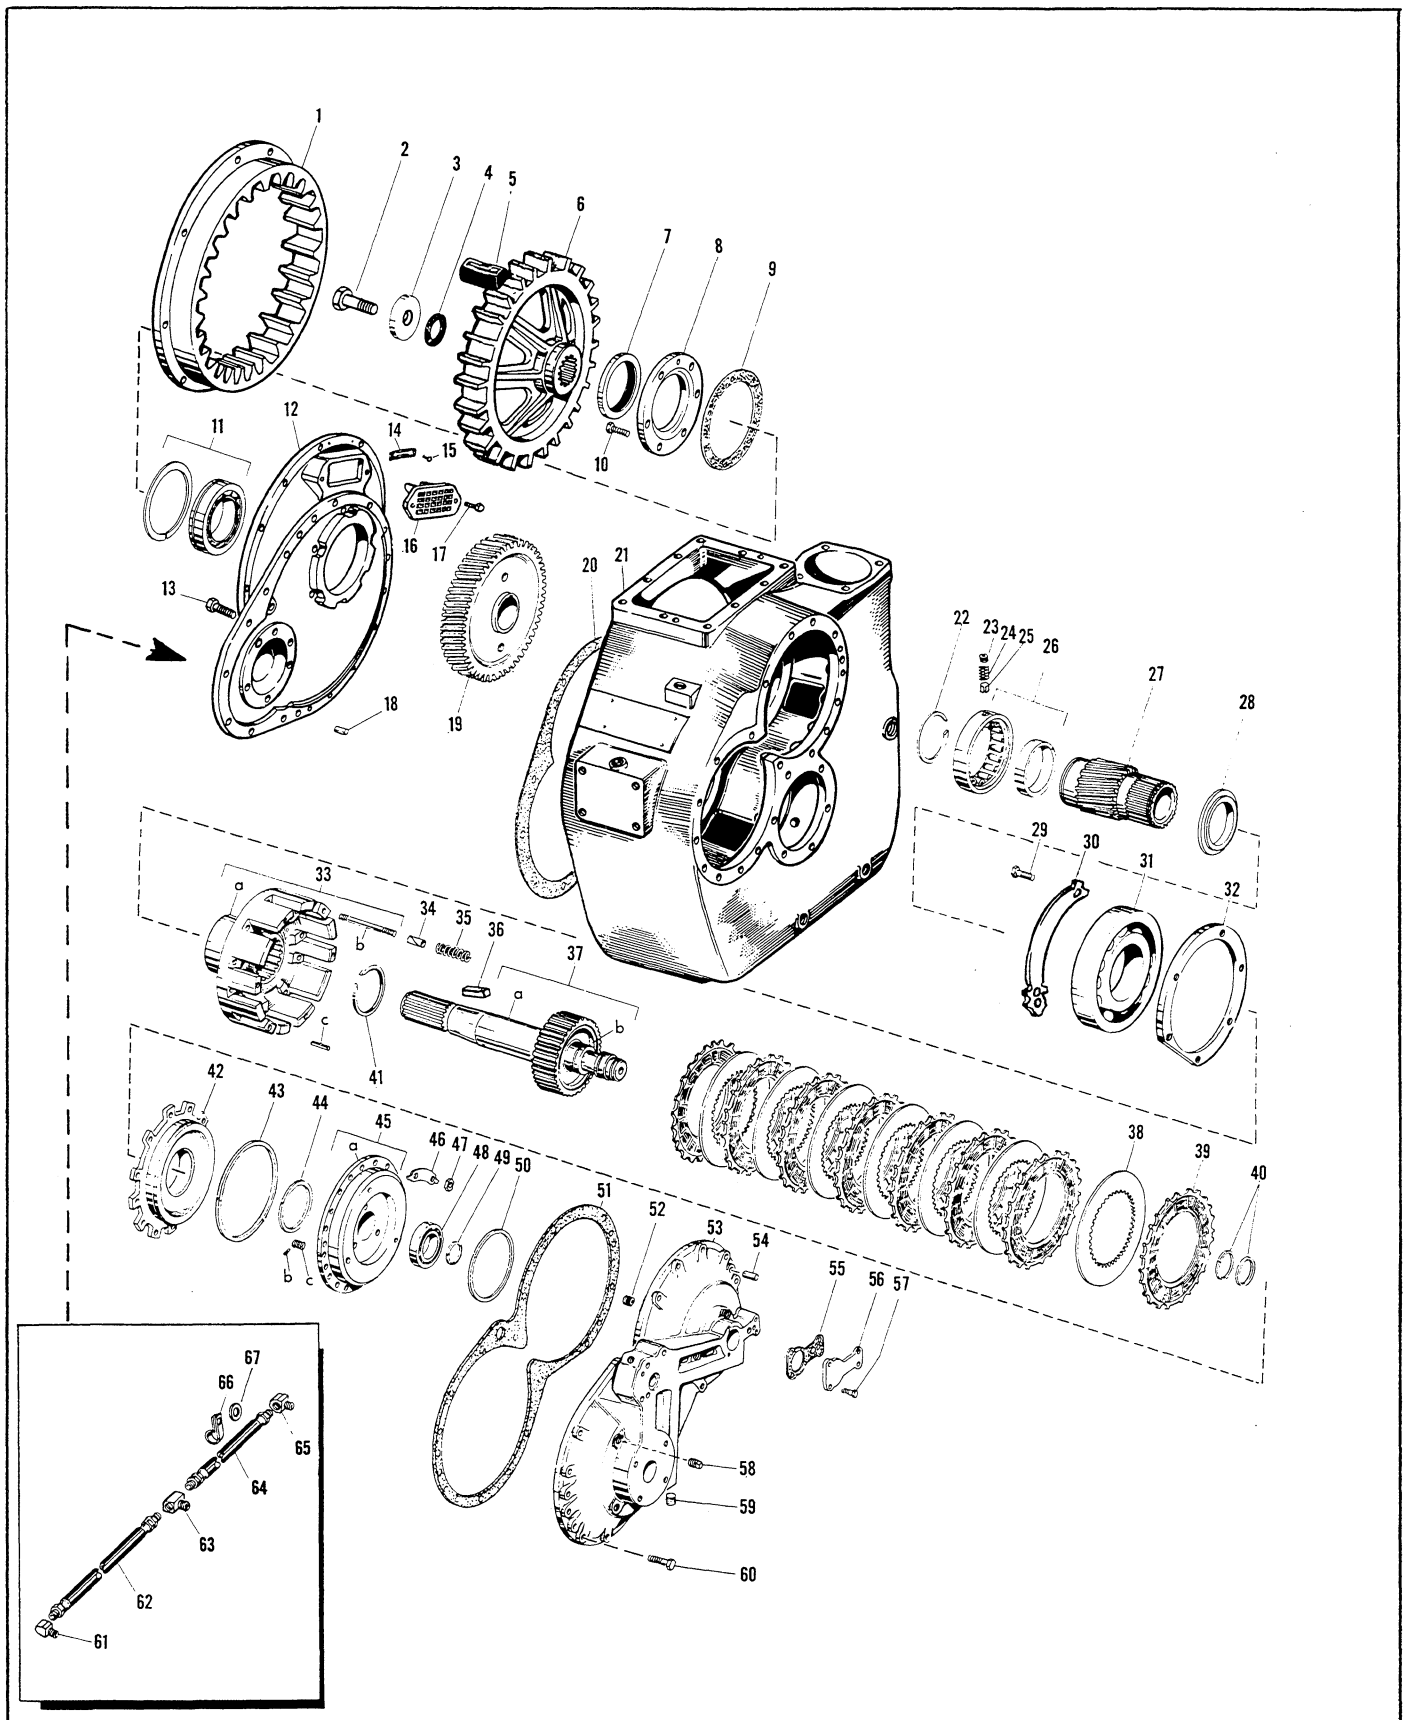

Figure 79. Forward Clutch Group Of Parts – Exploded View. (Shallow case shown).
B. Install the lathe cut ring (Fig. 79, 4) in the hub of the spider on the end of the forward clutch shaft. Secure the spider to the shaft with a retainer washer (3) and a capscREW (2) (7/8-9 x 3). Tighten the capscREW to 405-550 lbs. ft. dry.
A. Install the 1/4 inch hex-socket-head pipe plugs (fig. 79, 59) and the six 3/8 inch square-head pipe plugs (58) in the manifold (53). Use special tool T-6987, and install the roll pin (Fig. 80, 35) in the manifold. Install two new 5 inch piston rings (Fig. 79, 50 & Fig. 80, 56) in the manifold. Install the two manifold orifice pipe plugs (Fig. 79, 52) in the manifold. Install the two 1/2 x 1 dowel pins (54) in the main housing. Place the manifold and a new manifold-to-main-housing gasket (20) in position against the main housing. Carefully tap the manifold into position. Do not use excessive force to install the manifold as damage to the piston rings in the manifold or the piston rings on the shafts will occur. Secure the manifold to the main housing with sixteen 3/8-16 x 1-1/2 hex-head capscrews (60). Tighten the capscrews to 34-38 lbs.-ft. torque.
(5) Place the selector valve assembly and a new selector-valve-to-manifold gasket (41z) in position against the manifold. Secure the selector valve to the manifold with two 3/8-16 x 2-3/4 hex-head capscREWS (41dd) and two 3/8-16 x 5-3/4 hex-head capscREWS (41ee). Tighten the capscREWS to 17-25 lbs. ft. torque, dry. On units manufactured with one-half inch capscREWS used to retain the selector valve to the manifold, tighten the screws uniformly using a criss-cross sequence to 17-25 lbs. ft. torque. Check the freeness of valve stem. If stem binds, loosen the mounting screws and again tighten to 17-25 lbs. ft. torque with the criss-cross sequence. Repeat this until stem moves freely.
D. Place the cover plate (Fig. 79, 56) and a new cover plate gasket (55) in position against the manifold. Secure the cover plate to the manifold with four 3/8-16 x 1 hex-head capscREWS (57). Tighten the capscREWS to 34-38 lbs. ft. torque.
Use Figure 79 through 82 and the adjacent parts list for ordering spare or replacement parts in accordance with the instructions contained in page 4. Following the parts list are planographs of the MG-514 Marine Gear.